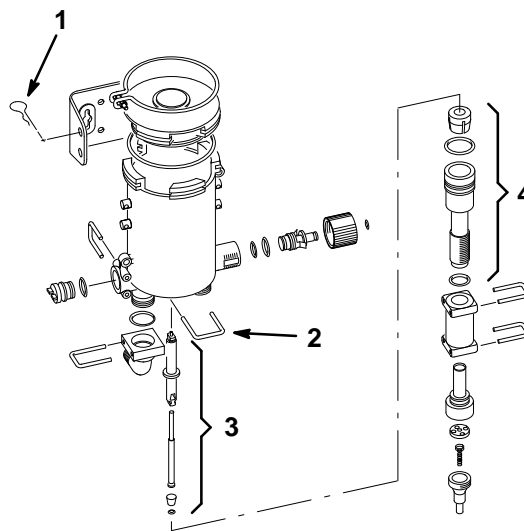

Figure 19
- C. Remove the hairpin cotters and remove the injector from the support bracket (Fig. 19).
4. Remove the interlock pins and disassemble the plunger and cylinder assemblies (Fig. 19).
5. Clean the plunger and cylinder assemblies (Fig. 19).
6. Reassemble the plunger and cylinder assemblies (Fig. 19).